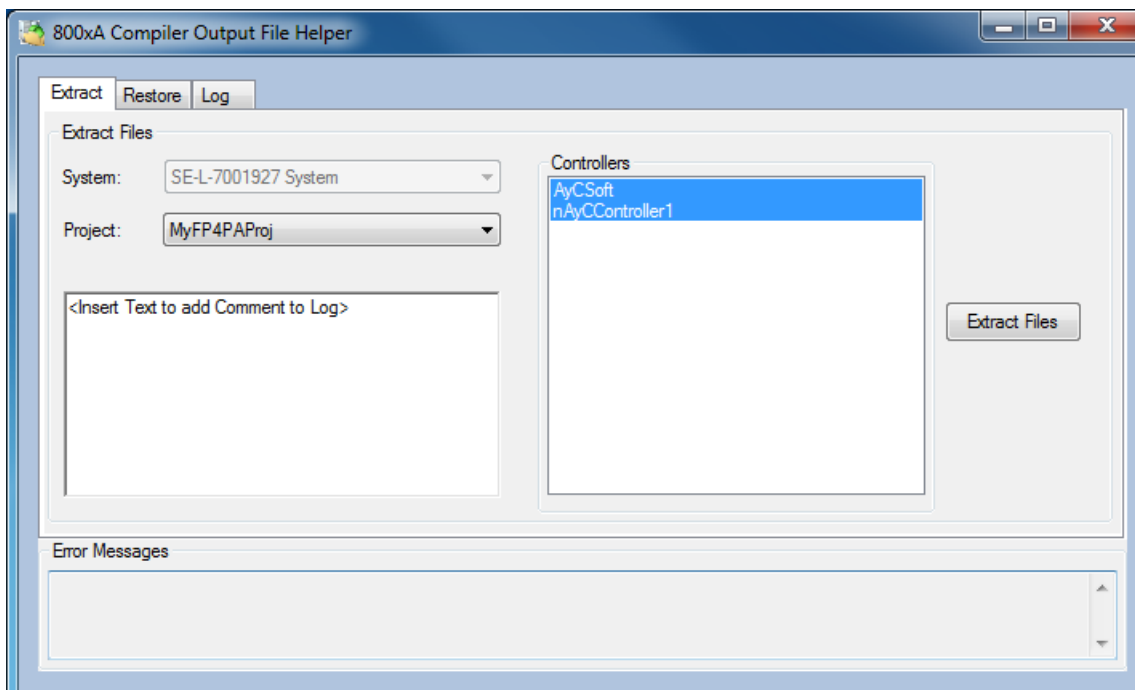

Figure 173. Extract Tab of the Compiler Output File Helper
1. Select the System and Control Builder Project from the drop down boxes as shown in the Figure 173.